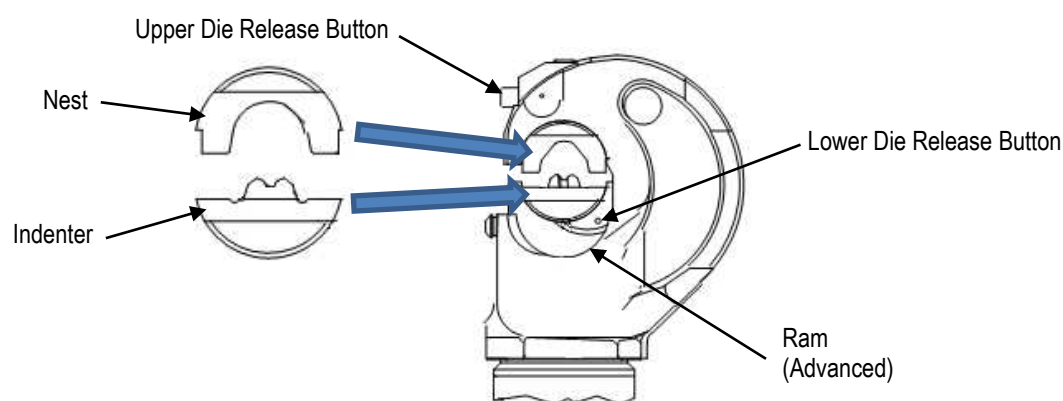

Figure 3
#### 3.1. Die Installation (Figure 3)
2. Slide the nest into place in "C"-head. See Figure 3.
6. Slide the indenter into position in the ram. See Figure 3.
#### 3.2. Die Removal (Figure 3)